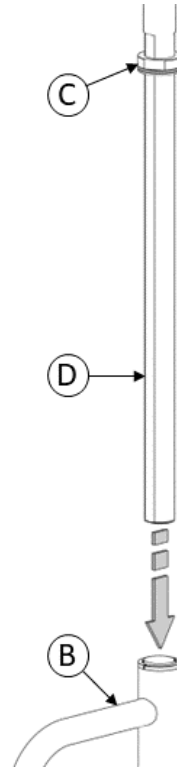

FIGURE 4
4. Twist **C** to its highest position and insert **D** into **B** as shown in *FIGURE 4*. **Note:** If washers fall off, ensure that they are reinstalled prior to inserting **D** into **B**. Place the plastic washer directly under **C**, then place the metal washer under the plastic washer.